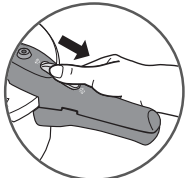
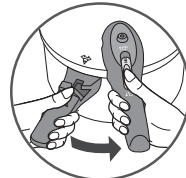

Fig 1
Fig 2
- Using your thumb, pull on the opening knob (E) and move it back to the  position - Fig 1. Hold the long pressure cooker handle (L) with your left hand, while turning the long lid handle (F) counter clockwise with your right hand, until it opens - Fig 2. Then lift the lid off.